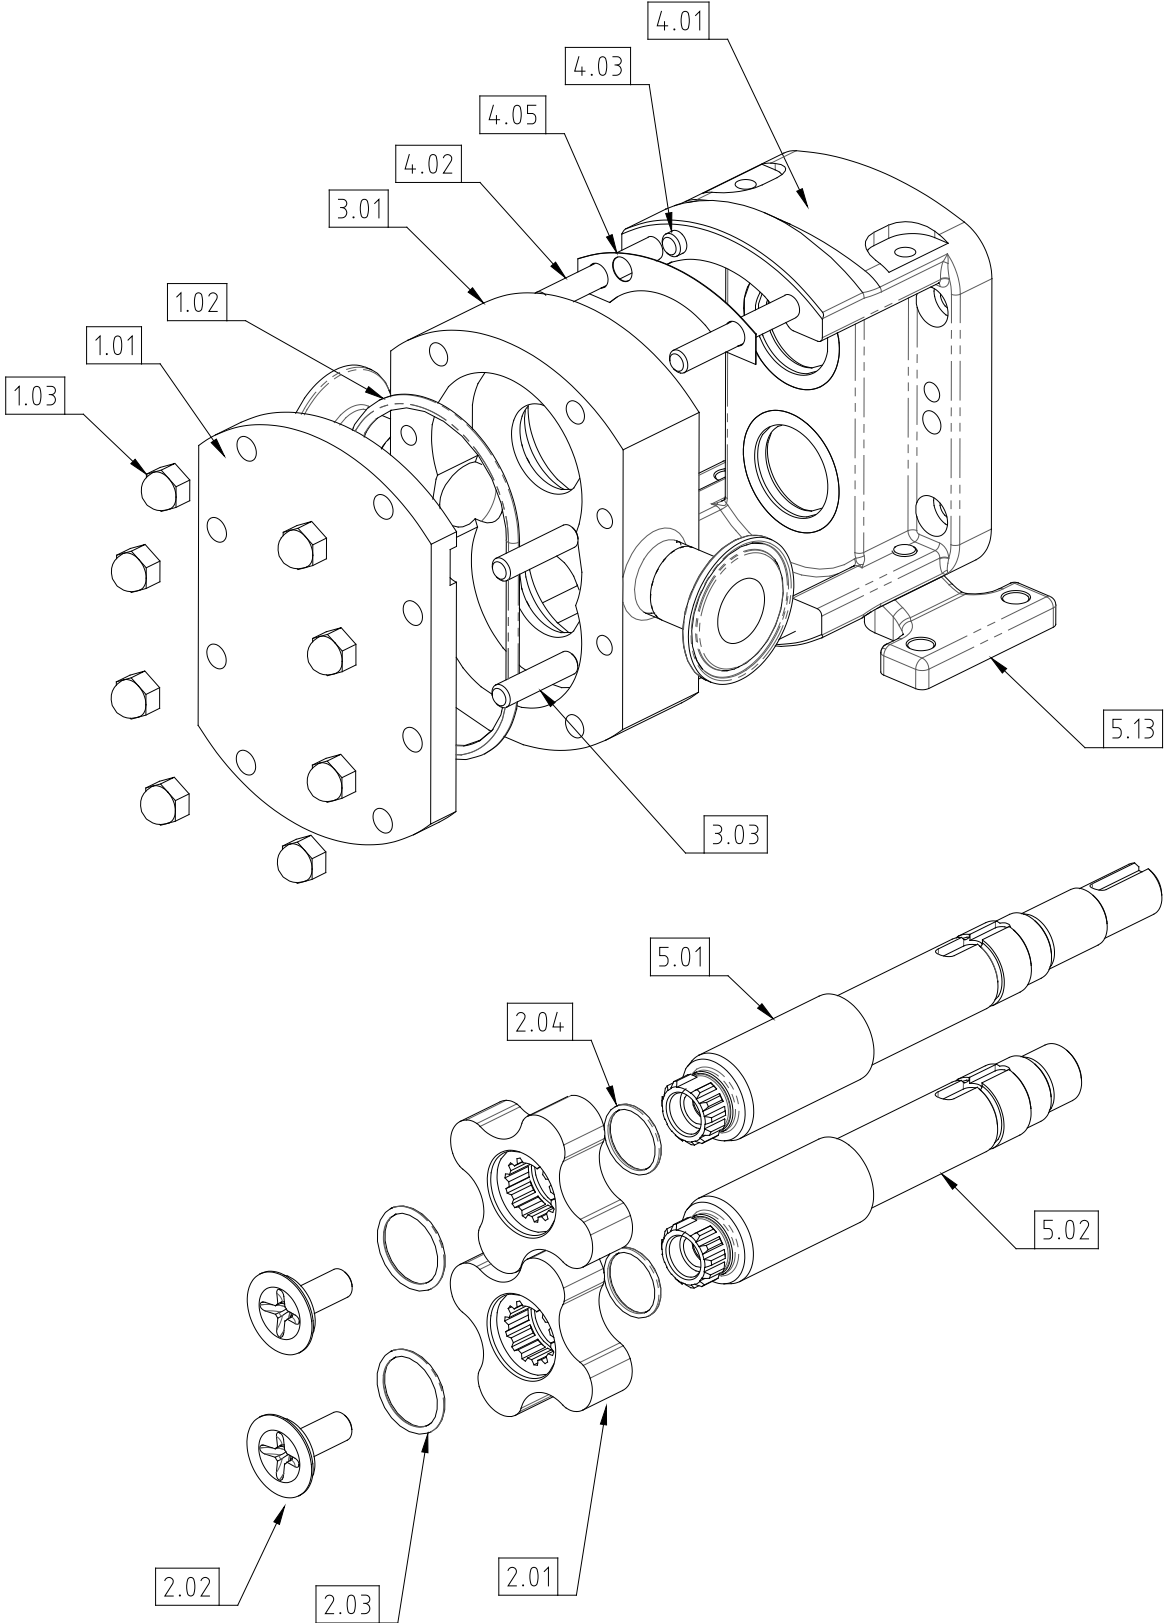

Fig 15 CP10 Exploded View of Rotorcase and Rotor Assembly
- For CP10 Pump – refer to Fig 15.